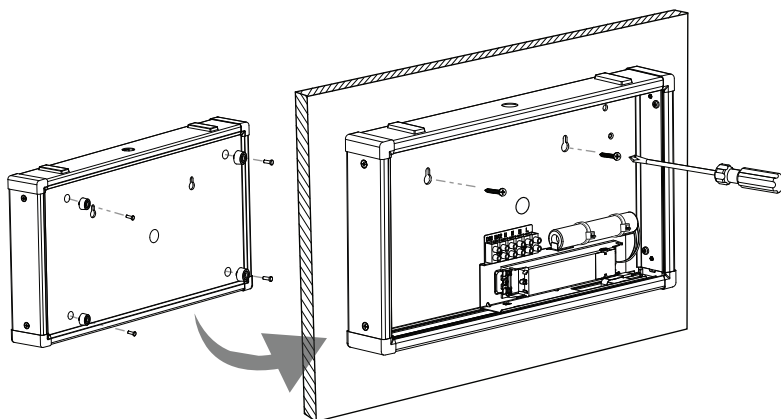

Figure 4: Mercury III Jumbo installation
3. Position and mount the Mercury III Jumbo on a flat surface and fasten with the appropriate fixing as shown in **figure 4**.